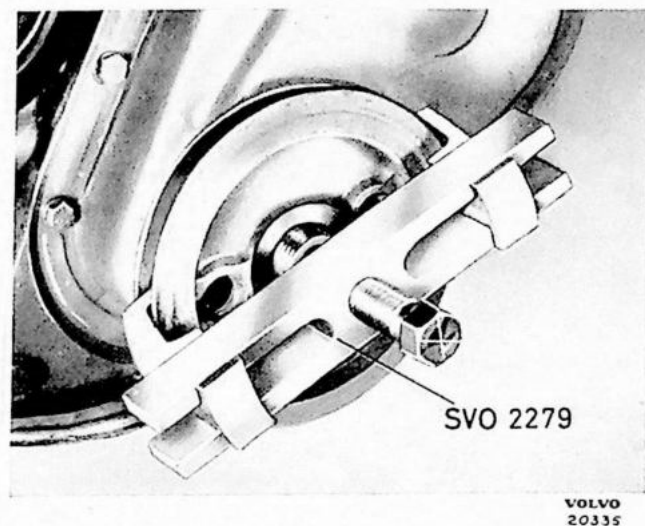

Fig. 41.
8. Pull fan belt pulley off crankshaft, Fig. 41, using tool SVO 1449 for earlier version of pulley, SVO 4155 for present version.